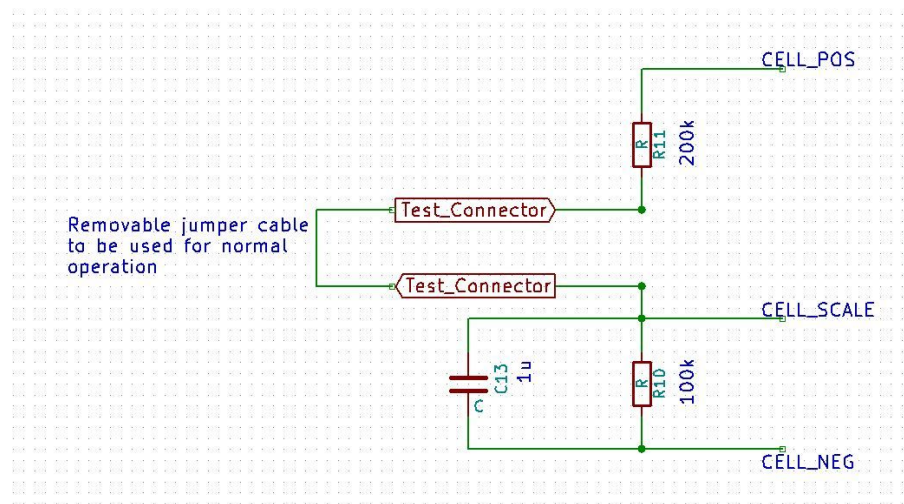

Figure 1. Test connectors added to AMS board
4. This year we introduced two new boards into the AMS system to ensure we would pass EV10.4. The first is an altered AMS board, the schematic (figure 1) shows where breakout points were added onto the board in order to attach the second board created for the tests necessary.